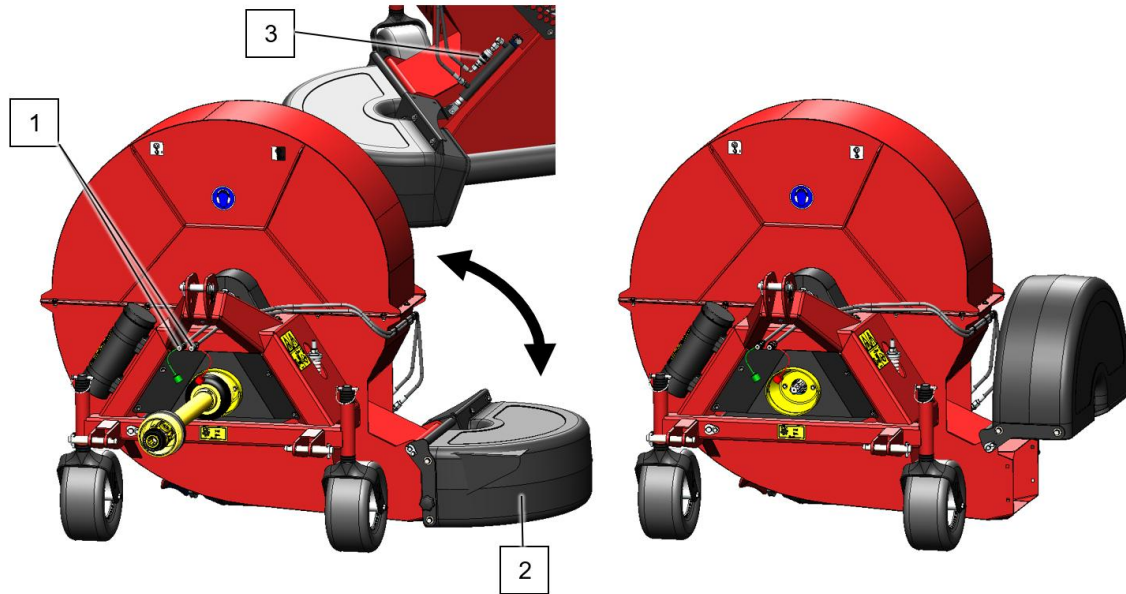

Fig. 9
By using the hydraulic connection (1), the position of the reverse spout (2) can be defined (Fig. 9). As a result, air is blown out to the left, right, or both sides of the machine.